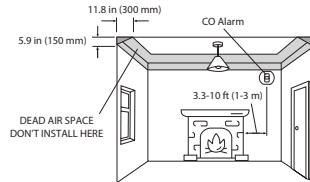

Figure 1: Installation in a room with a fuel-burning appliance
**Installing a CO alarm in a room with a fuel-burning appliance (see Figure 1):**